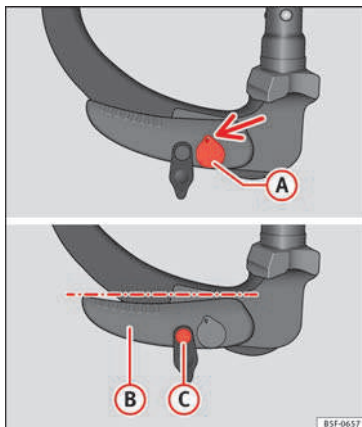

Fig. 181 Standby position: Position of the lever and the release bolt.
- Key **(A)** » **Fig. 181** is in the released position (the part of the key with the holes is facing upwards).
- Lever **(B)** » **Fig. 181** is in the bottom position.
- The release bolt **(C)** » **Fig. 181** can be moved.